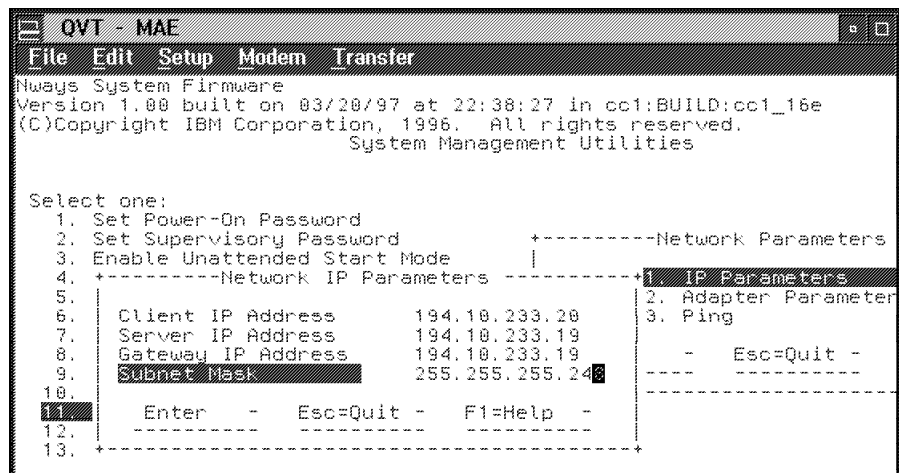

Figure 1-25. QVT - MAE
8. ____ Refer to Figure 1-25, enter the **Client IP address** (MAE address of the PCMCIA card), **Server IP address** (service processor address), **Gateway IP address** (if no router on the ring, enter the service processor IP address), then press **Enter**.